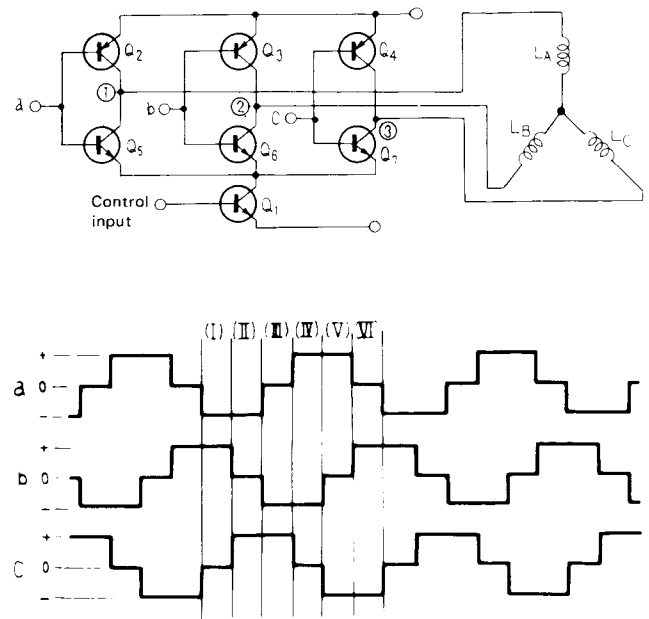

Fig. 23
1. The signals employed in the switching of Q2 ~ Q7 in Fig. 23 are generated by 3 Hall elements, and applied to terminals a, b, and c via the position signal formation circuit.